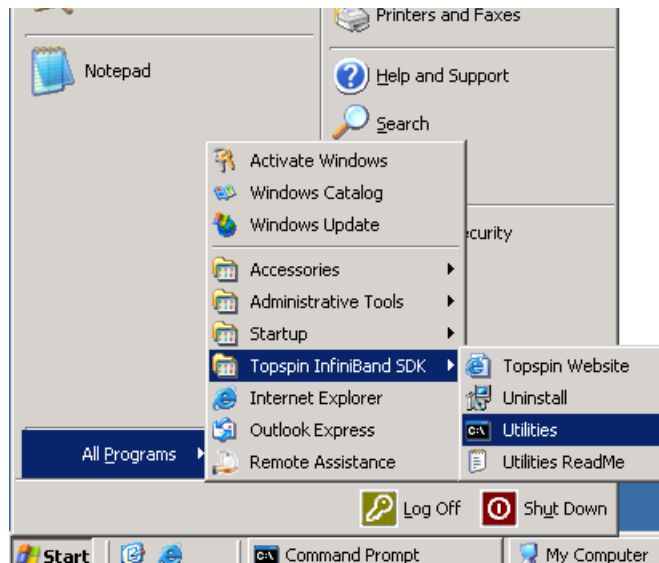

Figure 5-5 Verify InfiniBand Windows Host Driver menu under Program Files
1. To verify the driver installation, log in to your host and check whether the Topspin InfiniBand SDK menu is listed under All Programs as shown in Figure 5-5.